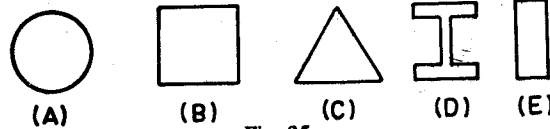

Fig. 35
77. The five cross-sectional areas shown in Fig. 35 are each axially strained 0.001 mm per mm. The axial deformations in these will be as follows